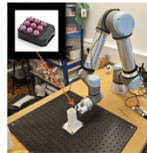
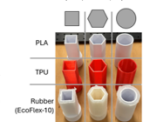

Figure 1: The experimental setup consists of a UR5e robot arm equipped with a Contactile sensor (above). The test object is fixed in the workspace.
Figure 2: Nine objects are included in the dataset. These are composed of three geometric shapes and three materials. The rubber objects have a PLA core.
For the experiments, a UR5e robot was equipped with a 'Contactile' tactile sensor (Figure 1). The robot also includes a 6D force/torque sensor in the wrist. The Contactile sensor consists of 9 rubber papillae, each of which uses internal optical techniques to measure 3D vectors of force and displacement.
The robot is tasked with making several precise and repeatable touching actions on nine different objects (Figure 2). Each experimental 'trial' refers to a series of touching actions with one object. The objects are changed between trials. During each trial the robot approaches the centre of the object from a given angle. Once the measured normal force (from the force/torque sensor) exceeds a given threshold, the movement stops.
- The Contactile tactile sensor is composed of 9 individual domed sensors called papillae (shown in Figure 1 and Figure 2). Right now, we're just going to look at the data from the middle papillae (P4).